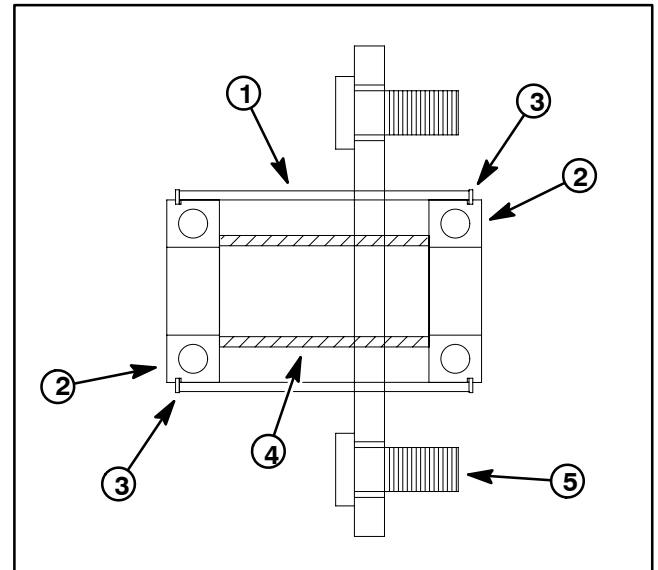

Figure 4
3. Loosen and remove five (5) lug nuts that secure wheel to machine. Remove wheel from vehicle.
B. Remove cap screw and two (2) washers that secure the wheel hub to the spindle. Slide wheel hub from the spindle shaft.
5. If necessary, remove bearings from both sides of the wheel hub (Fig. 4). Discard removed bearings. Retrieve spacer from wheel hub. Clean the spacer and the inside of the wheel hub.
1. If bearings were removed from wheel hub, position spacer in wheel hub and press new bearings into the hub until the bearing retaining rings seat against hub (Fig. 4).
3. Position wheel to studs in wheel hub and secure with five (5) lug nuts. Torque lug nuts from 45 to 65 ft-lb (61 to 88 N-m).